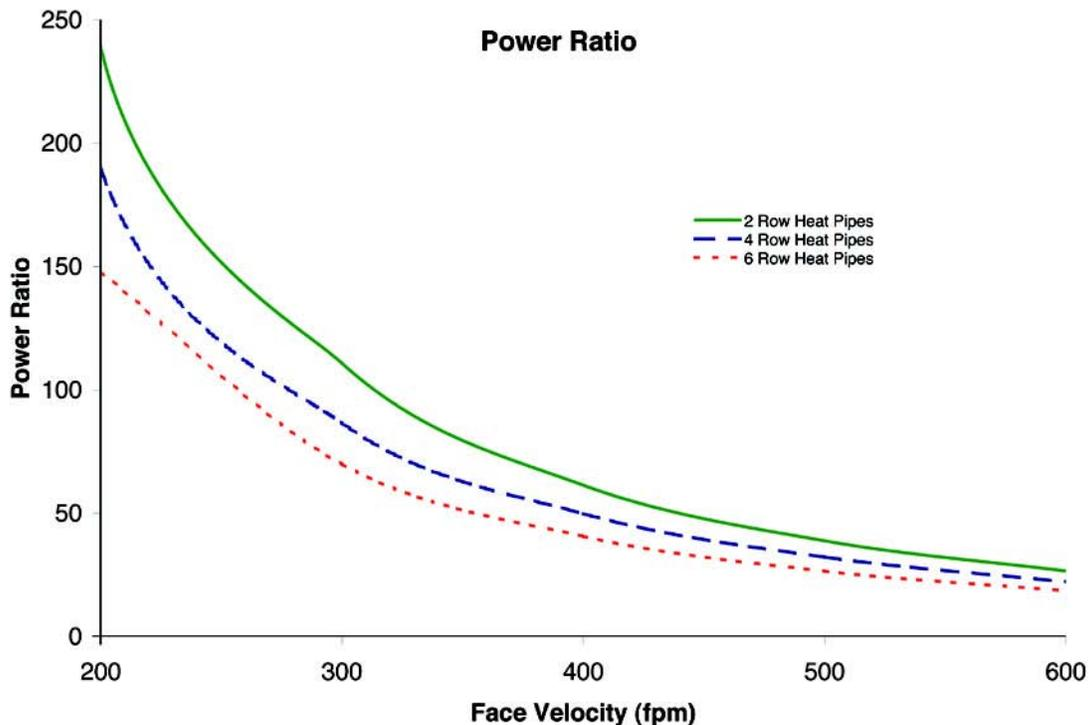

Figure 9
4. Heat pipe performance is very sensitive to face velocity. As the face velocity reduces, both the effectiveness (a measure of efficiency) increases and the pressure drop decreases. This double effect has a strong effect on the heat pipe power ratio (BTUH output due to the heat pipes divided by their airside PD penalty measured in BTUH) as shown in FIGURE 9. The lower the cooling coil and heat pipe face velocity, the more efficient the system.